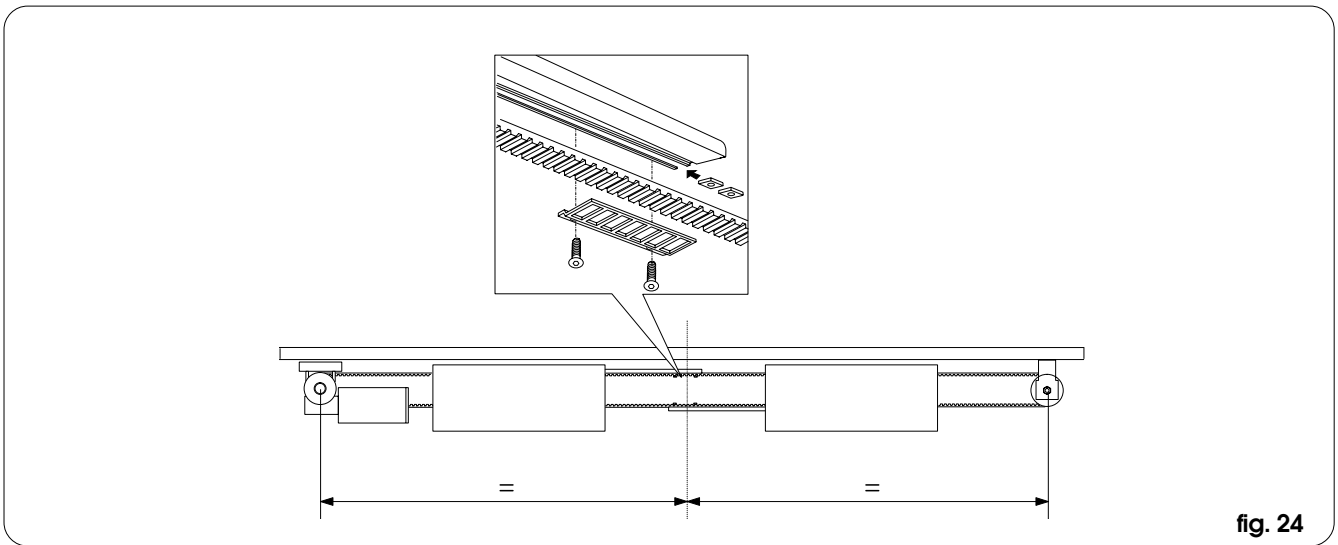

fig. 24
- For double-leaf doors: fit the second movement rod as shown in fig. 24.